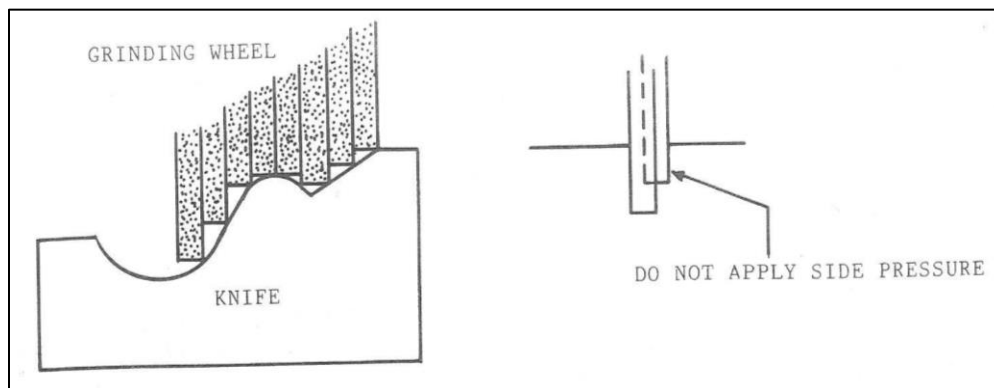

Figure 13
1. Make series of straight cuts in the direction of the wheel (Fig. 13).